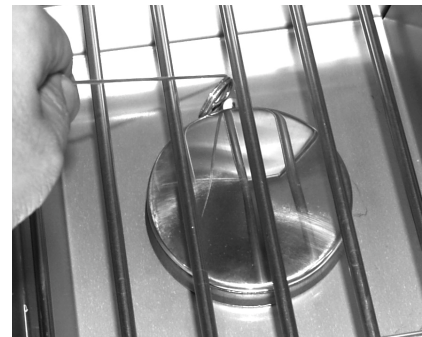

Fig. 35-2 Manual lighting
2. Insert either a burning long-barrel butane lighter, a burning long-stem match, or a burning match held by a wire extension holder through the cooking grid opening to the burner (Fig. 35-2). Hold the flame against the edge of the burner.
4. If the burner does not light within five (5) seconds of turning the control knob, **immediately depress the knob and turn the valve to OFF**. WAIT FIVE (5) MINUTES before repeating steps 2 through 4 of the MANUAL LIGHTING instructions.